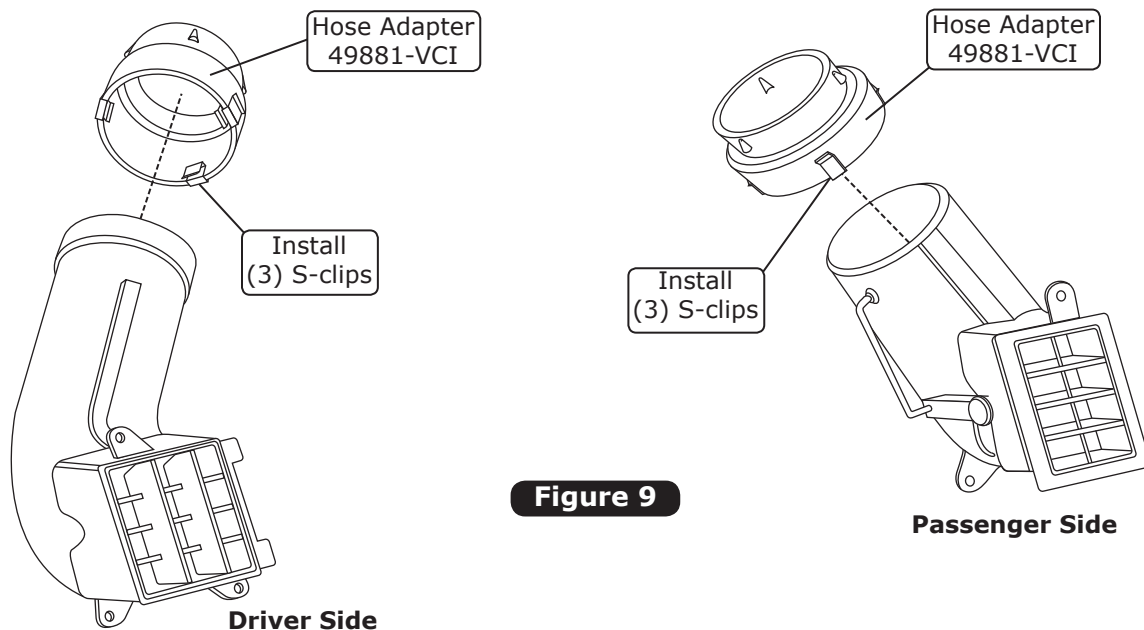

Figure 9
1. Install S-clips on the hose adapters as shown in Figure 9, below.
2. Install the driver and passenger side hose adapters onto the OEM louvers (See Figure 9, below).